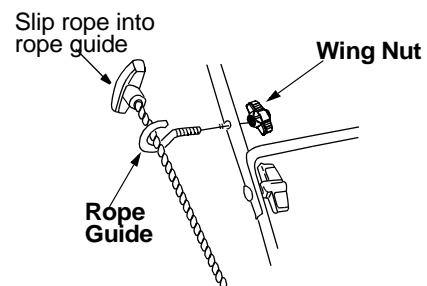

Figure 4
- The rope guide is attached to the right side of upper handle. Loosen the wing nut which secures the rope guide. See Figure 4.
- With spark plug wire disconnected and grounded, hold the blade control handle against the upper handle, and pull the starter rope out of the engine. Release blade control handle. Slip the rope into the rope guide. Tighten the wing nut. See Figure 4.